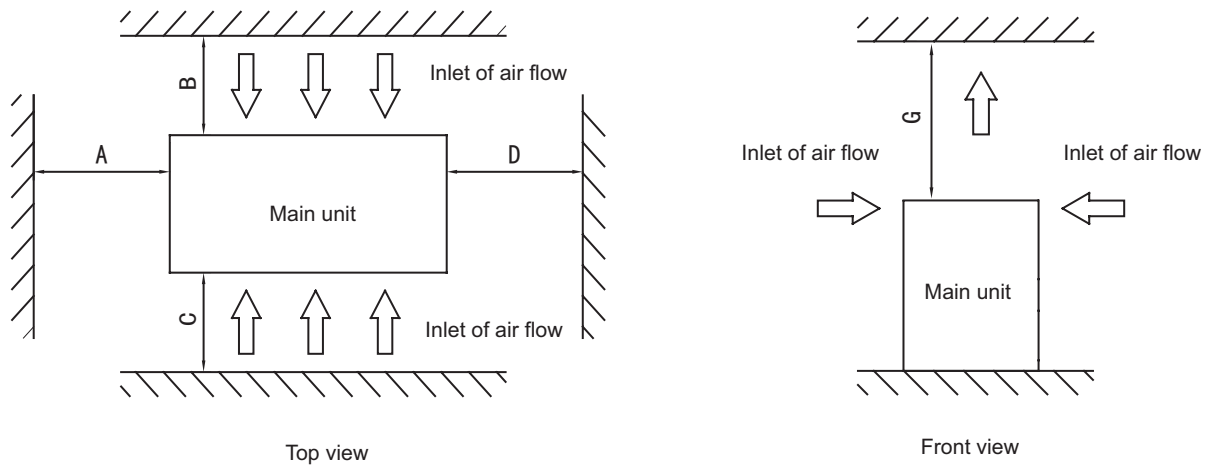
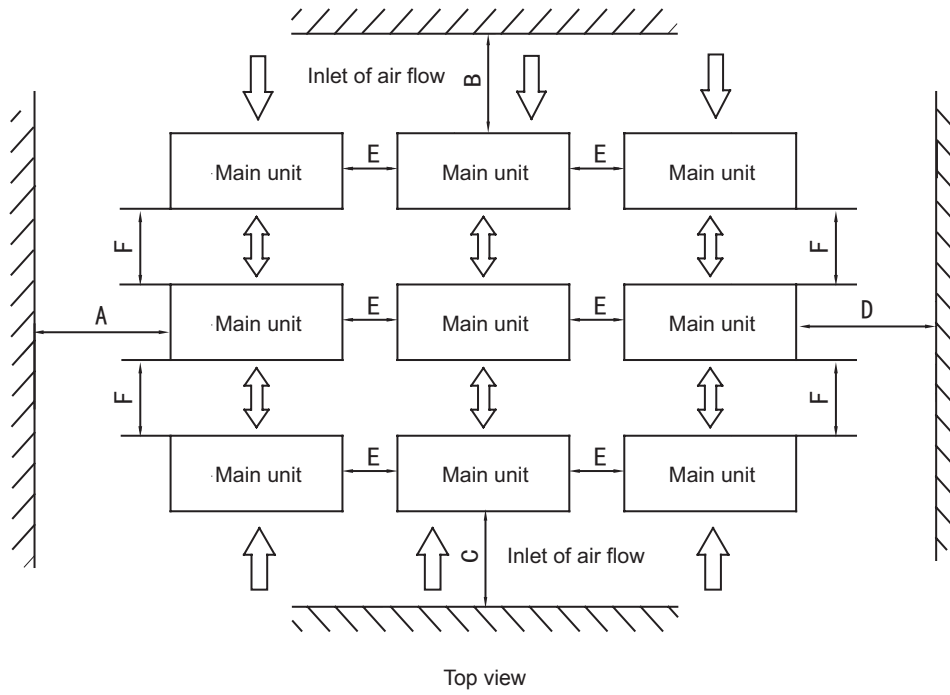

Fig. 6-4 Single unit installation
Fig. 6-5 Multiple units installation
- To avoid back flow of the air in the condenser and operational faults of the unit, the parallel installation of multiple Modular units can follow the direction and distance as shown in Fig. 6-4, Fig. 6-5 and Table 6-2.